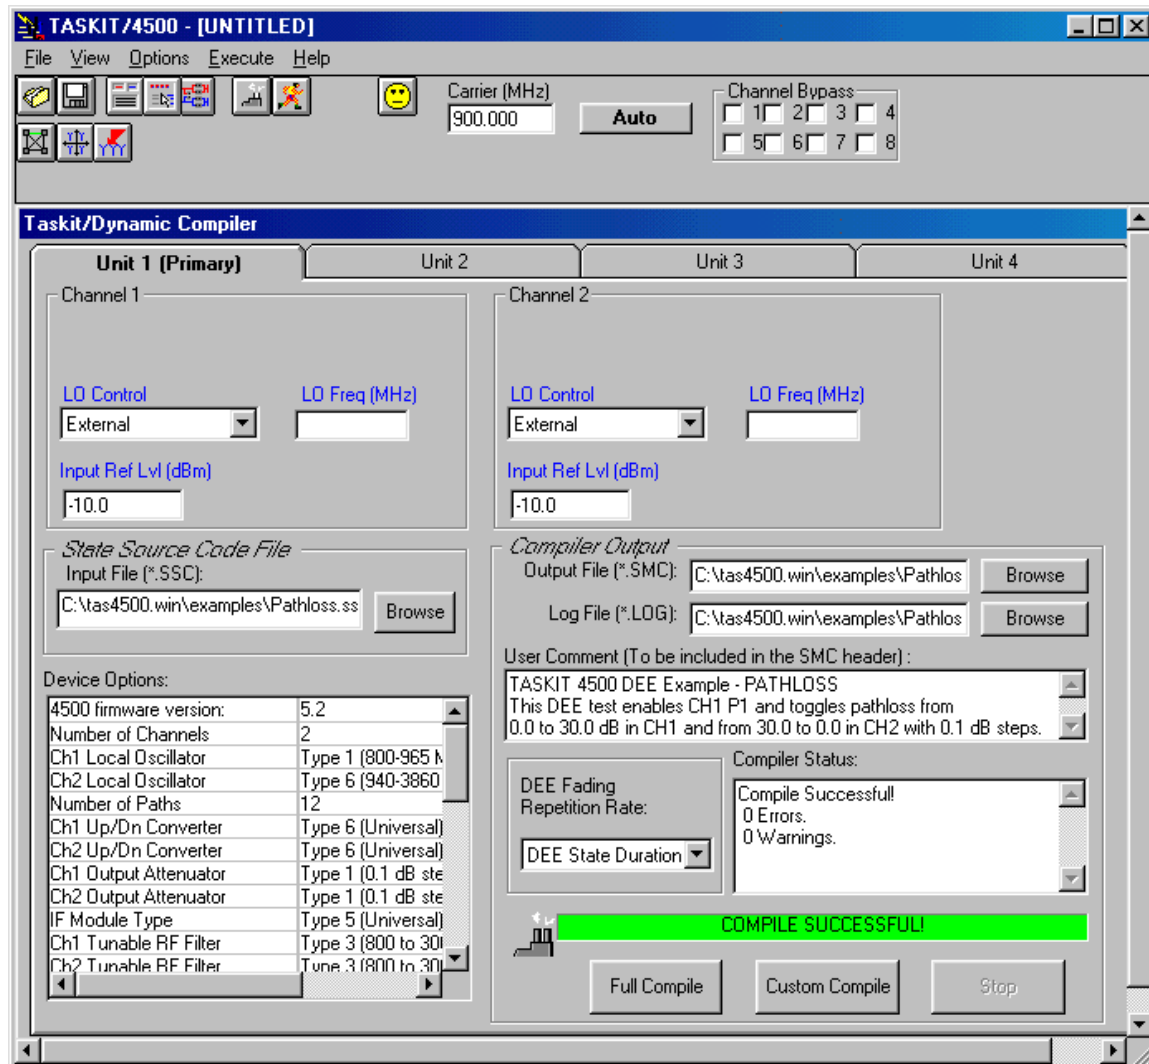

Figure 3-14. TASKIT DEE Compiler Example
Figure 3-14 shows the DEE Compiler screen results from the generation of the “*PATHLOSS.SMC*” file. The “*PATHLOSS.SSC*” file that comes with TASKIT/4500 was used to compile the “*PATHLOSS.SMC*” file. The compiler Log file in this case is stored in “*PATHLOSS.LOG*”. The “*PATHLOSS.SSC*” and “*PATHLOSS.SMC*” files are installed into the “*TAS4500.WIN\EXAMPLES*” subdirectory.
8. Click on the **Full Compile** button to begin the compilation process for the entire source file. A successful compilation should result in “0 Errors” and “0 Warnings” as shown in Figure 3-14.
1. To access the TASKIT/4500 DEE Preview utility shown in Figure 3-14, click on the  icon at the top of the TASKIT/4500 screen or select *View* → *Dynamic Environment Emulator*.